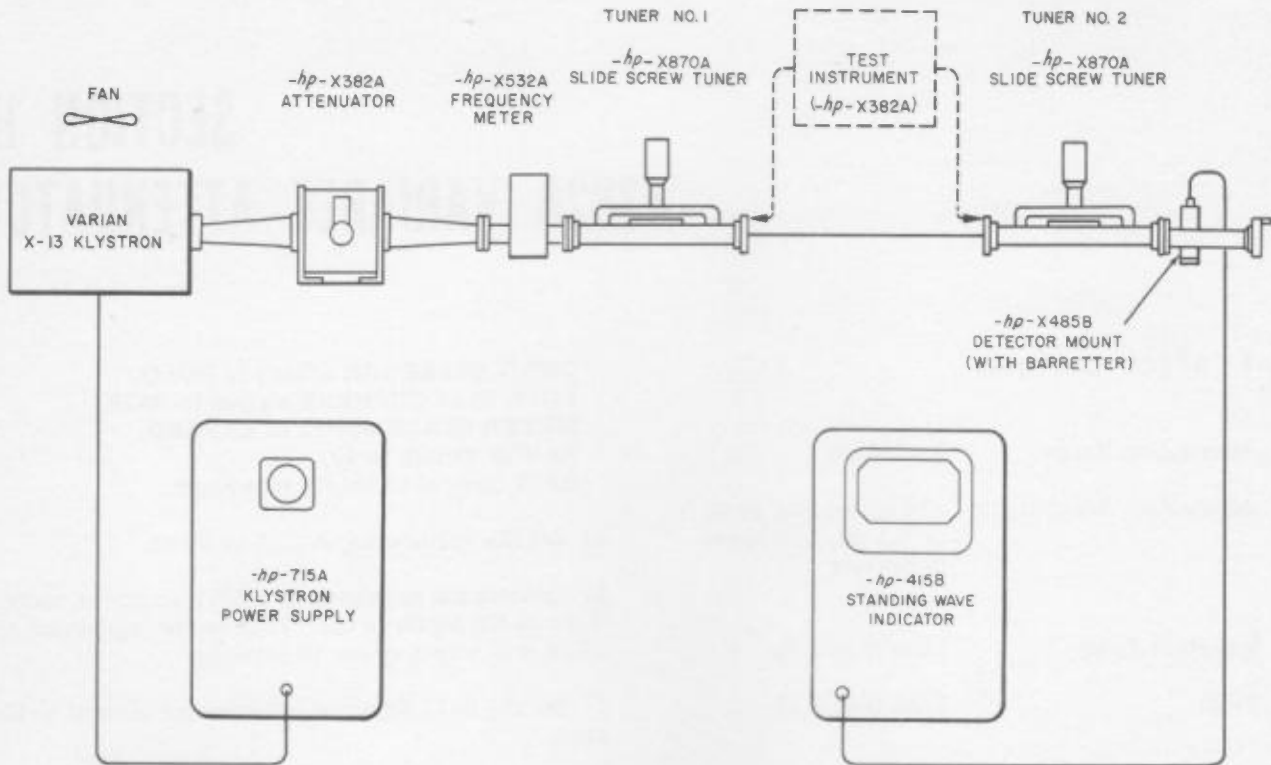

Figure 3-1 X382A Variable Attenuator Calibration.
- 1) Set up the equipment as shown in Figure 3-1.
1) Connect the equipment as shown in Figure 3-1 with the two tuners connected together.